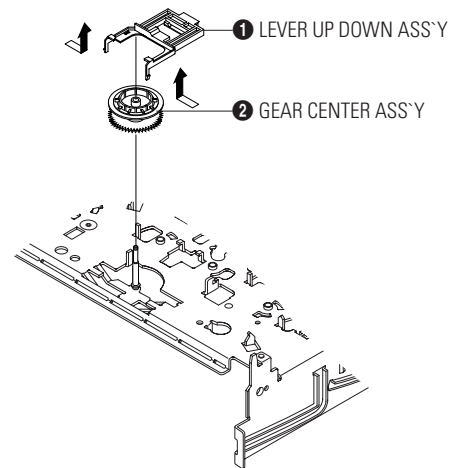

Fig. 3-28 Lever Up Down Ass'y Removal
- 1) Remove the 2 hooks in the direction of arrow as shown Fig. 3-28 and lift the Lever Up Down Ass'y ❶.
- 2) Lift the Gear Center Ass'y ❷.